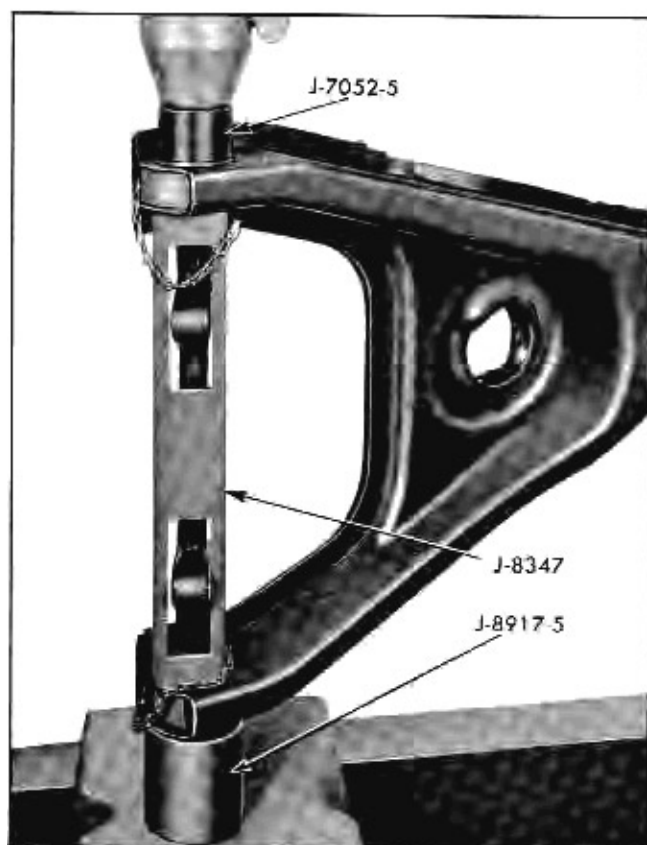

Fig. 3-35 Installing Cross Shaft and Bushings
3. Press bushing into control arm until flange contacts control arm (Fig. 3-35).